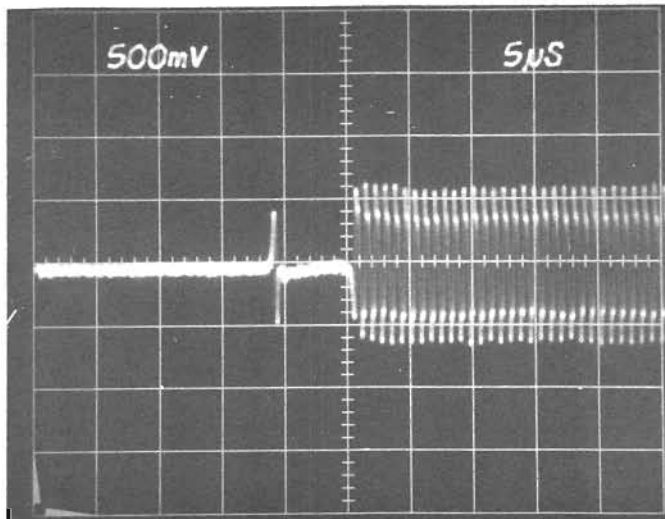

Figure 5-12. INDEX TO DATA BURST WAVEFORM
9. Using the leading edge (negative-going) of the index pulse at TP-F75 of the Logic PCB as a trigger, observe the signal at TP-A33 or TP-A36 of the D/T PCB. This signal is shown in Figure 5-12. Note the long pulse followed by a long burst of signal. The long pulse is the read gate.
2. Measure the Index-to-Data burst times for both upper disk heads at track 10 and track 402. (Time between the index negative edge and first peak of isolated pulse - see Figure 5-12.) The time difference among the four measurements must be less than 6.0 usec. If >6.0 usec, perform the following adjustment procedure: